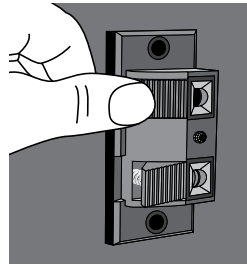

figure 6
2. Gently press on the toggle to open the connector (**figure 6**).
1. To access the bag, unlatch the two clips and remove the dust receptacle (**figure 6**).